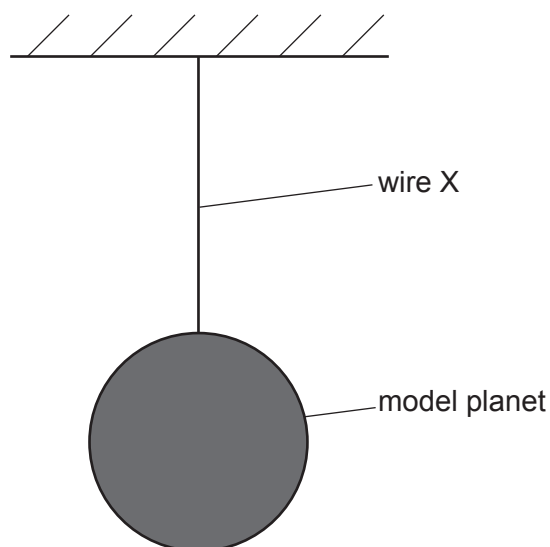

Fig. 3.1 (not to scale)
(ii) On the line in Fig. 3.1, draw a cross (×) to show the elastic limit. Label this cross with the letter E. [1]
- 3 A thin metal wire X, of diameter $1.2 \times 10^{-3} \text{ m}$, is used to suspend a model planet, as shown in Fig. 3.1.